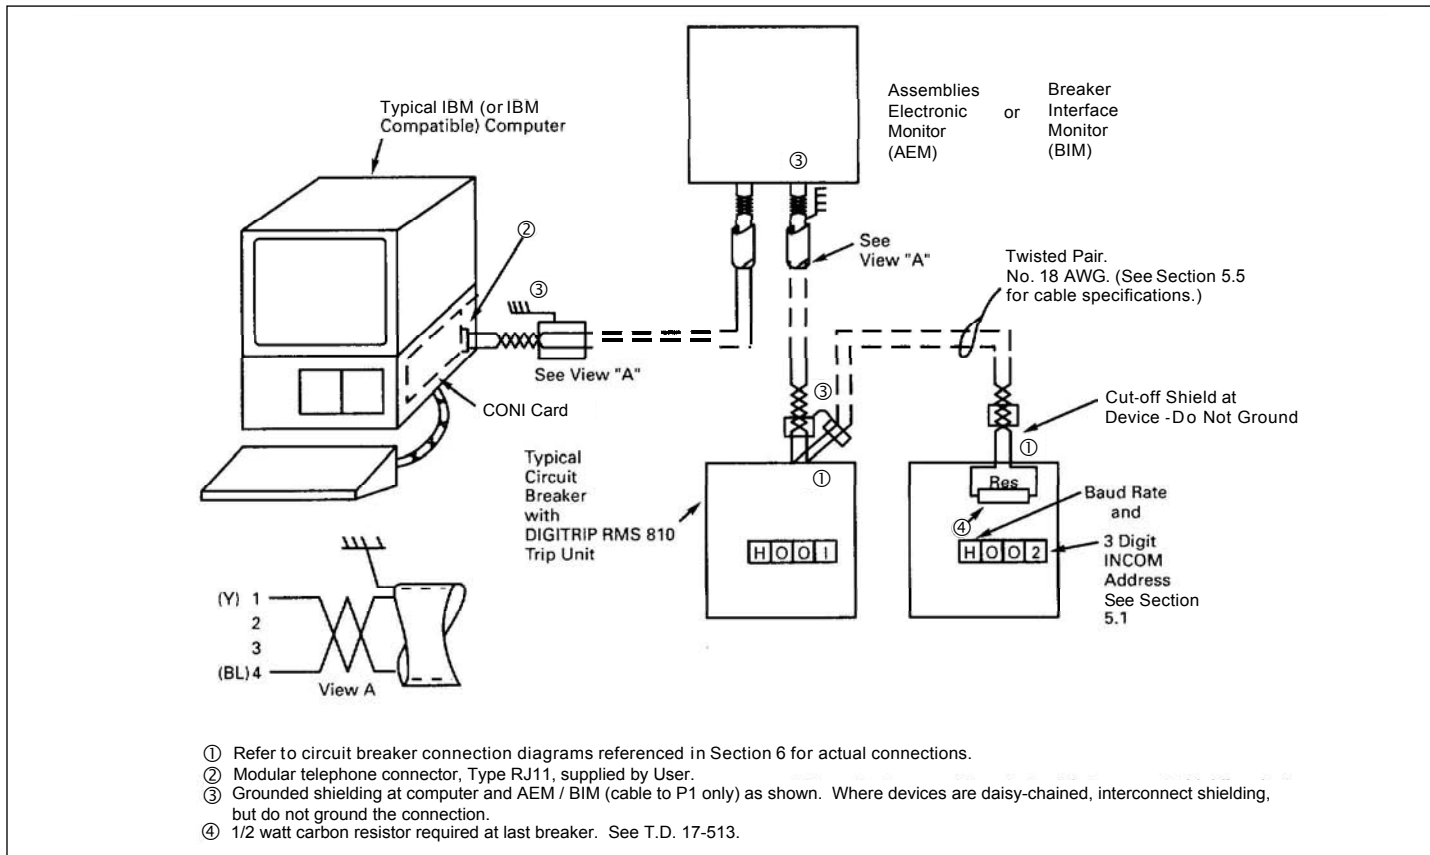

Figure 23. INCOM Network with Remote Master Computer and AEM / BIM.
- Both an AEM or BIM (for local monitoring) and a PC for remote monitoring and control (see Figure 23 and references in Section 6).
When desired, Digitrip RMS 810 Trip Units can communicate with either an Assemblies Electronic Monitor (AEM) or a Breaker Interface Monitor (BIM) and a remote master computer (IBM PC compatible with CONI or MINT card as noted in Section 5.2). The connections in the network are then made by twisted pairs of wires as shown in Figure 23.